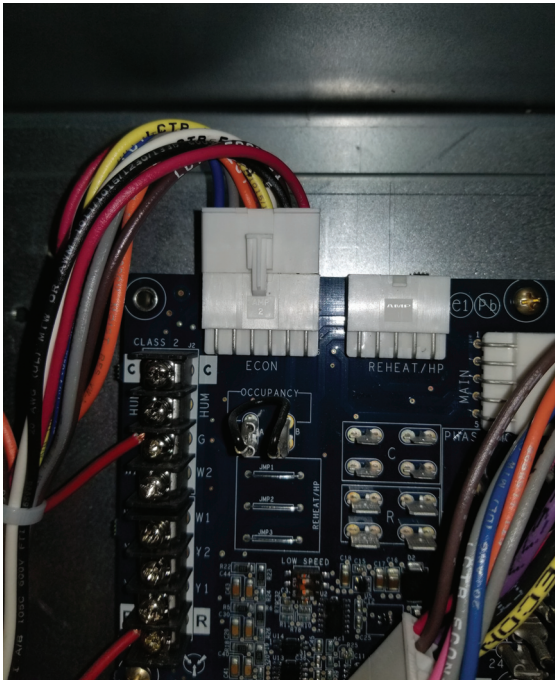

Fig. 18 — Connect 12-Pin Plug to Unit Control Board
30. Connect the 12-pin male plug from the controller harness to ECON on the UCB. Refer to Fig. 18 and wiring diagrams on pages 9 and 10.